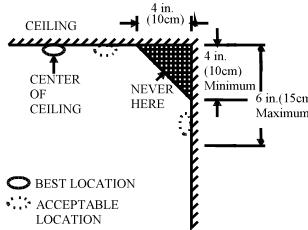

Figure 4:
- Install smoke alarms as close to the center of the ceiling as possible. If this is not practical, put the alarm on the ceiling, no closer than 4 inches (10 cm) from any wall or corner, as shown in Figure 4.
- If ceiling mounting is not possible and wall mounting is permitted by your local and state codes, put wall-mounted alarms between 4 and 6 inches (10 ~ 15 cm) from the ceiling, also see Figure 4.
- Dead air spaces are often at the top of a peaked roof, or in the corners between ceilings and walls. Dead air may prevent smoke from reaching an alarm. See Figures 4 and 5 for recommended mounting locations.